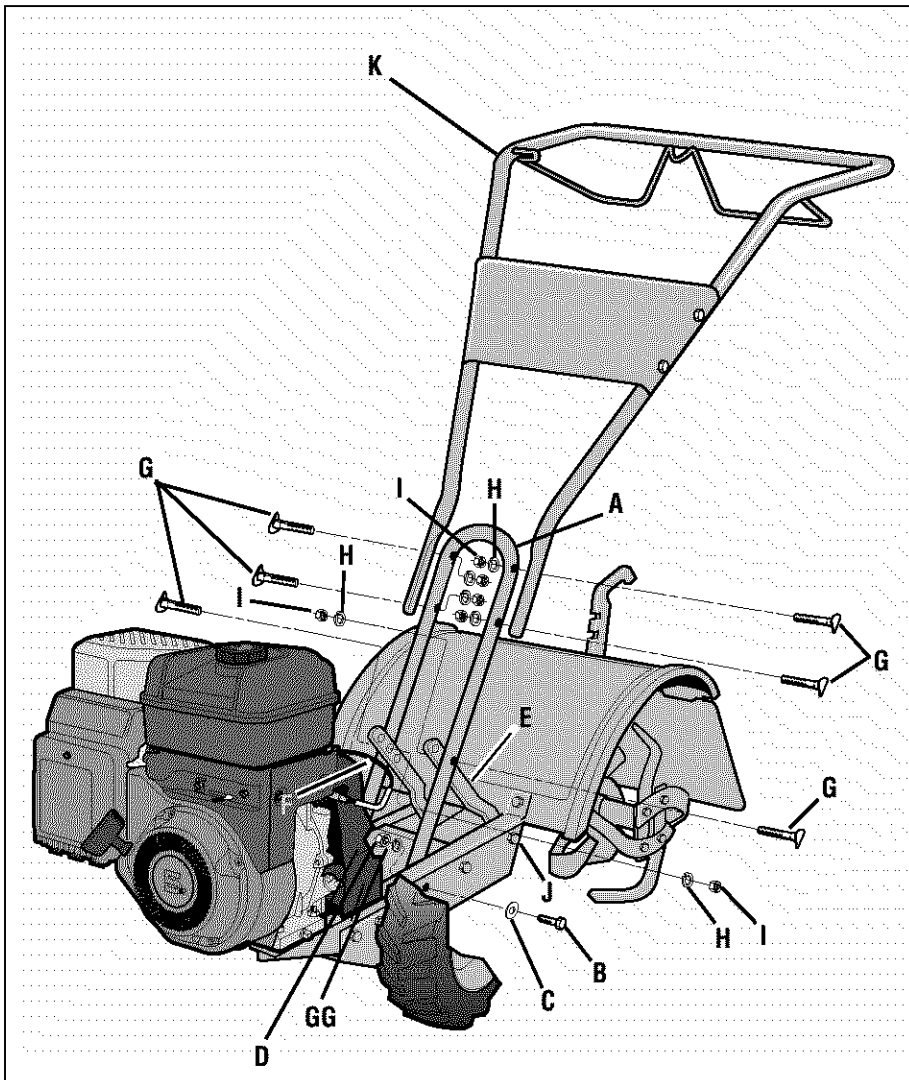

Fig. 2.2: Attach handlebar (5.5 HP Model shown).
| 1 | Handlebar Support (see A, Fig. 2-2) |
| 1 | Handlebar Assembly (see K, Fig. 2-2) |
1. Loosely attach the legs of the handlebar support (A, Fig. 2-2) to the inner sides of the tiller frame using two 3/8"-16 x 3/4" hex hd. screws (B), 3/8" flat washers (C), 3/8" lock washers (GG) and 3/8"-16 hex lock-nuts (D).
2. There are three height adjustment holes in the two handlebar support brackets (E and F, Fig. 2-2). Use a setting that will position the handlebars at approximately waist level when the tines are 3"-4" into the soil. Loosely attach the support brackets to the handlebar support (A) using two 5/16"-18 x 1-1/2" screws (G), 5/16" split lockwashers (H) and 5/16"-18 hex nuts (I). **NOTE:** If a support bracket will not move, loosen attaching screw (J) and nut.
3. Attach the handlebar assembly (K) to the handlebar support (A) using four 5/16"-18 x 1-1/2" screws (G), 5/16" split lockwashers (H) and 5/16"-18 hex nuts (I). Tighten the four screws securely.